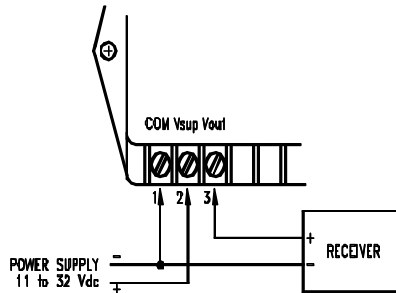

Figure 1
- A. Voltage Output units (PX291-XXXXD5V): With the voltmeter connected across the signal terminals (see Figure 1) apply full pressure to the instrument and adjust the Span potentiometer (R1), until the output reading is 5.00V.
There are three terminals for electrical connections (see Figure 1)